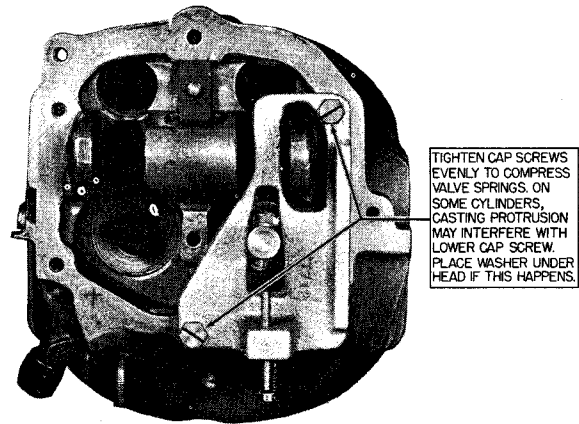

Figure 2. Compressor Plate Fixture Installed on Rocker Box
6. Install the pressure plate (figure 2). Use two 1/4 x 20 x 1.25 inch long hex head cap screws; turn the screws alternately to compress the valve spring evenly. On some cylinders, a casting protrusion on the cylinder head may interfere with the end of the lower capscrew; if this happens, place several flat washers under the head of the capscrew before tightening. See figure 2.
5. Install the pressure plate. Use two 1/4 x 20 x 1.25 inch long hex head cap screws; turn the screws alternately to compress the valve spring evenly. Be sure the pressure plate is tightened securely against the rocker box gasket face. On some cylinders, a casting protrusion in the cylinder head may interfere with the end of the lower capscrew; if this should happen, place several flat washers under the head of the capscrew before tightening. See figure 2.